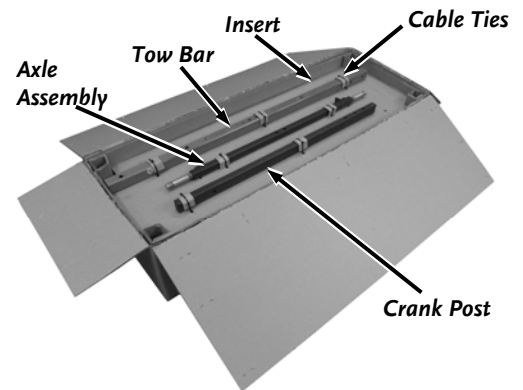

Figure 1
3. Cut the Cable Ties with Wire Cutters and remove the Axle Assembly, Tow Bar and Crank Post (**Figure 1**).